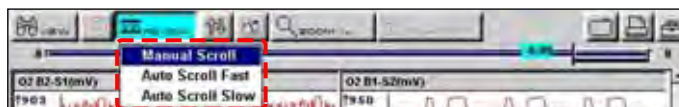

Figure 5-45 Sample Review scroll menu
1. With the **Review** button selected, press **Y/a** again to display a drop-down menu of options (Figure 5-45).